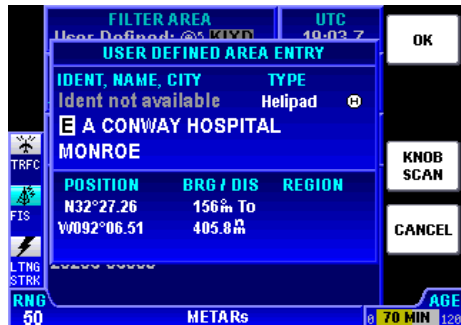

Figure 2-73
4. Turn the Rotary Knob counterclockwise until an **E** is selected as shown in Figure 2-73.